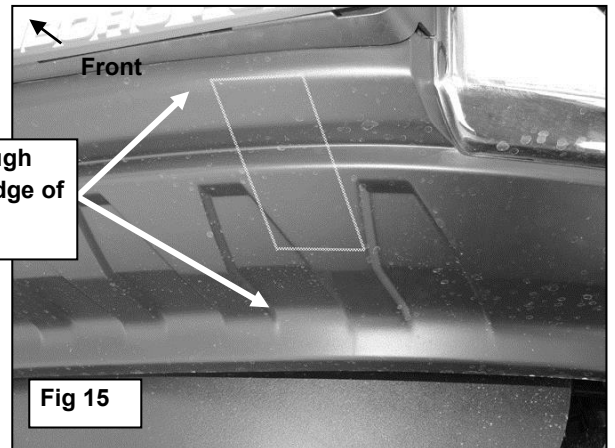

Fig 15
- a. Once the Frame Brackets are fully tightened to the vehicle, temporarily remove only the Grille Guard. Hold the plastic lower bumper cover up in the approximate position against the bottom of the bumper and against the Brackets, (If cover was previously removed in **Step 1a**). Mark the Bracket location onto the back of the bumper cover. Cut slots through the cover to clear the Brackets, **(Figure 15)**. **IMPORTANT:** For best results, start with a small opening and only trim away material required for Bracket clearance. Once properly trimmed, reinstall plastic bumper cover with the factory hardware.